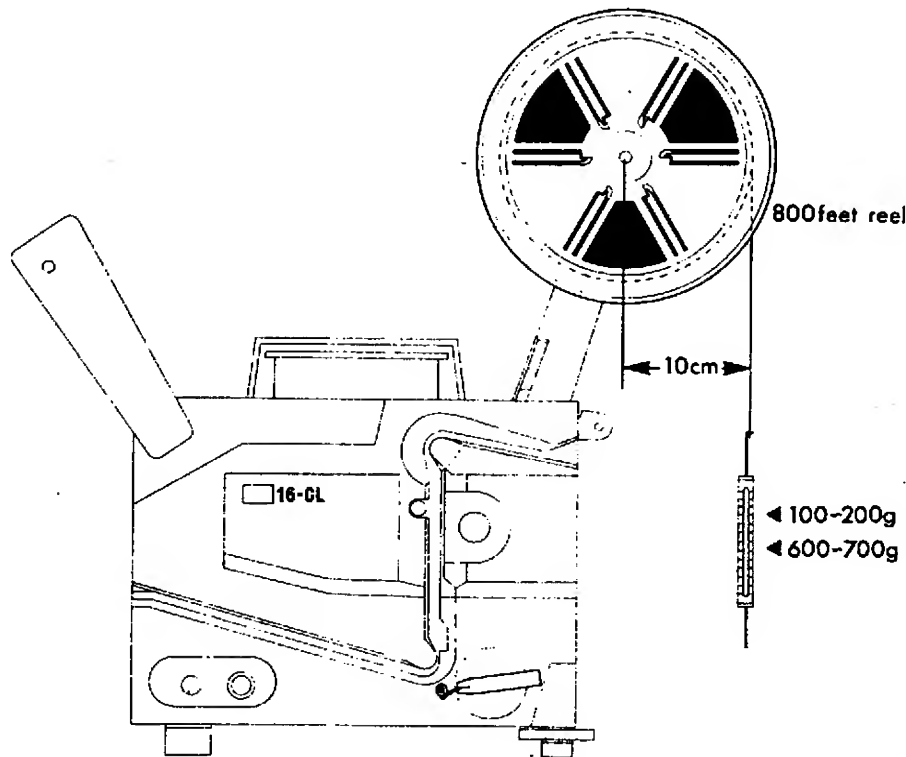

Fig. 20
- (1) As shown in Fig. 20, wind film on attached Reel until the diameter of wound film comes to 20cm.
- (2) Set Main Knob at "Q" position and measure the tension as illustrated in Fig. 20.
- * Change the pressure of Fig. 21-3 by turning Fig. 21-2 in order to adjust the tension to 600-700gr. (Refer to Fig. 20)